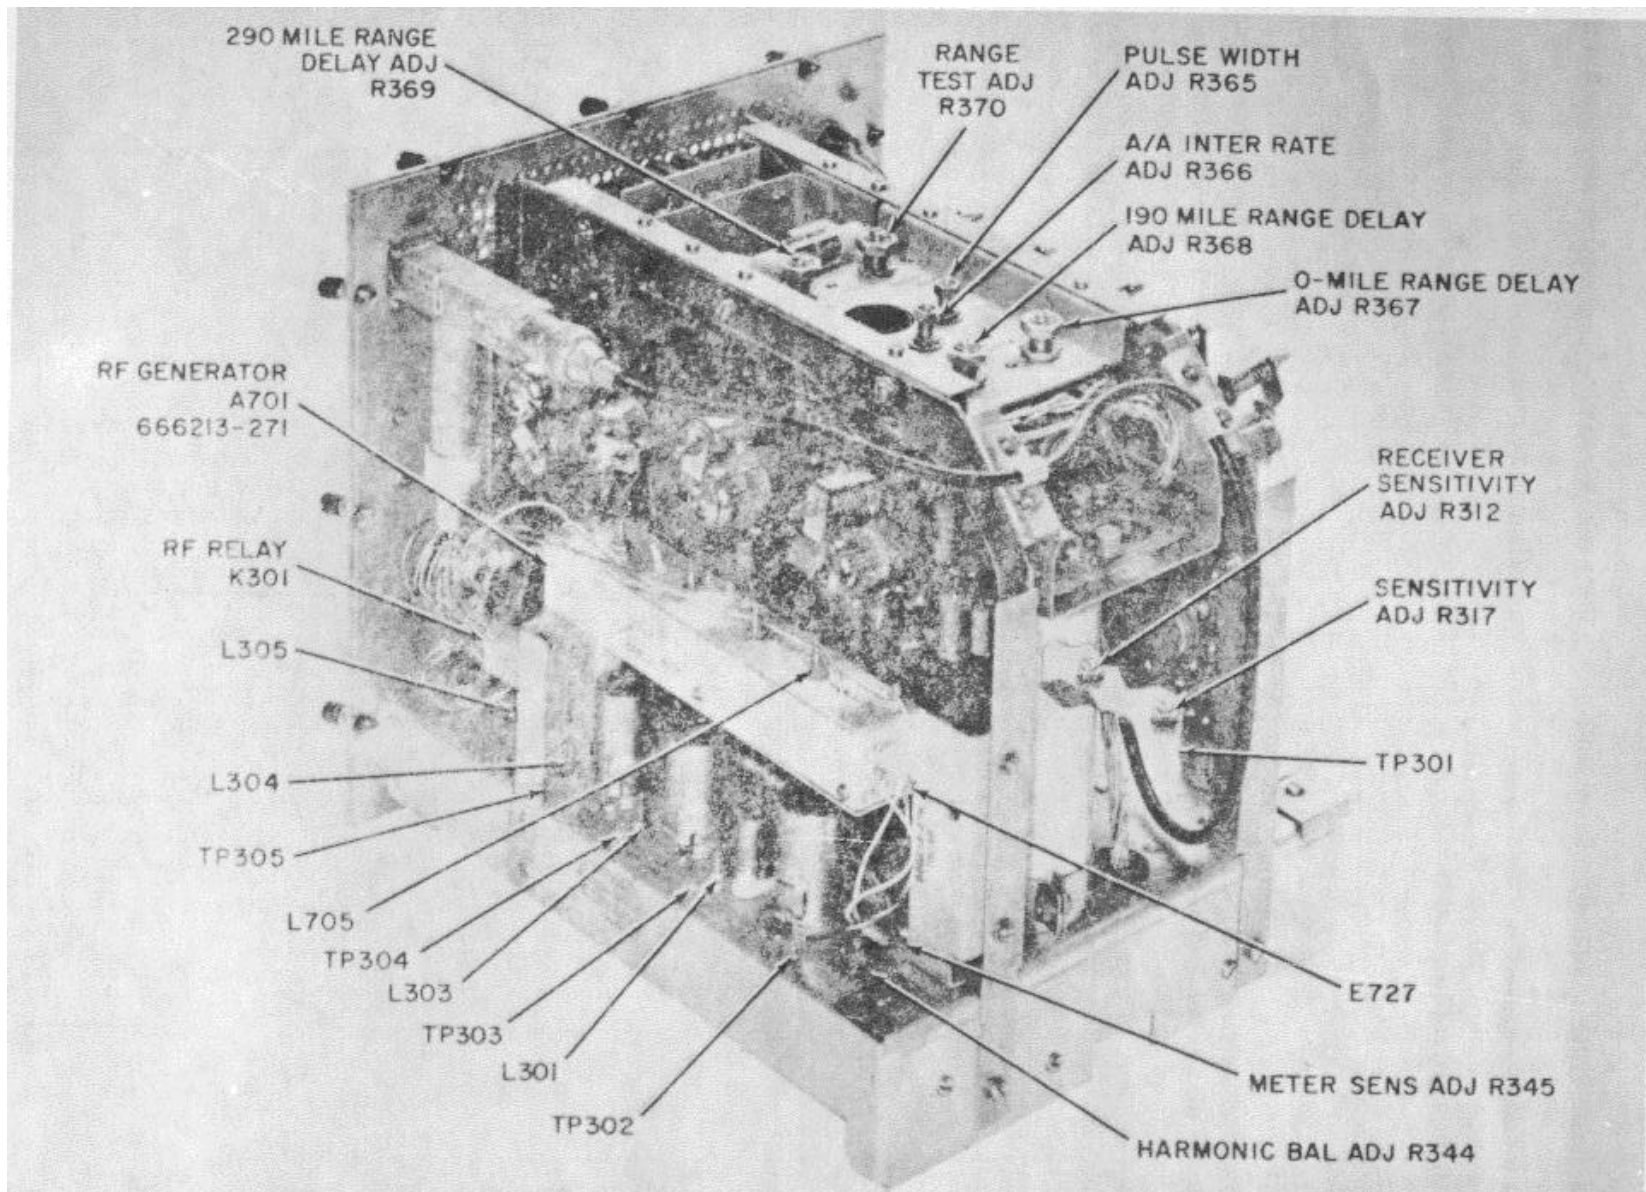

Figure 7-1. Receiver-Transmitter Chassis, Location of Test Points and Adjustments
**7-5.** Before calibrating the test set, use the calibration checks provided in table 7-2, which summarizes the normal indications at the various test points or appropriate strategic points. These checks are referenced to the voltage waveforms (table 6-2) of section VI. The voltage waveform patterns should be observed throughout the calibration procedures to obtain a correctly calibrated test set. Figures 7-1 through 7-3
d. Adjust sensitivity adjustment potentiometer R317 (see figure 7-1) counterclockwise until the main burst consists of exactly 12 double pulses. (Do not retighten locknut.)
f. Refer to figure 7-1, adjust pulse width adjustment potentiometer 1R36G for a pulse width of 6 usec at 50 percent amplitude. Pulse amplitude should be approximately 70 volts.